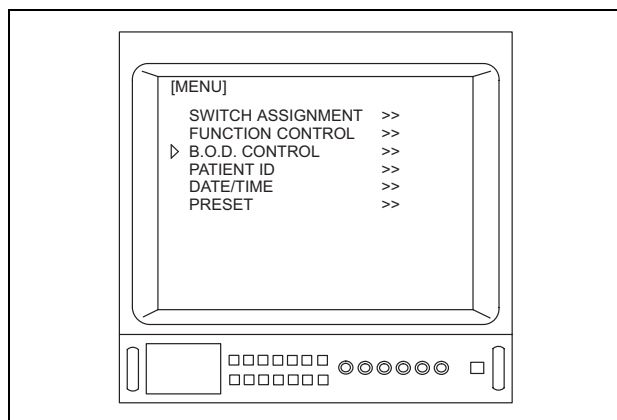

Figure 5.89
2. Depress the menu switches “” or “”, or the “” key on the keyboard to move the arrow “” to “B.O.D. CONTROL” (see Figure 5.89).
- When using a type A OTV-S7V, "B.O.D. CONTROL" (see Figure 5.89) is not displayed.
- When the OTV-S7H-1D-F08E/L08E/D-L08E is connected to the OTV-S7V, "SWITCH ASSIGNMENT" (see Figure 5.89) is not displayed.